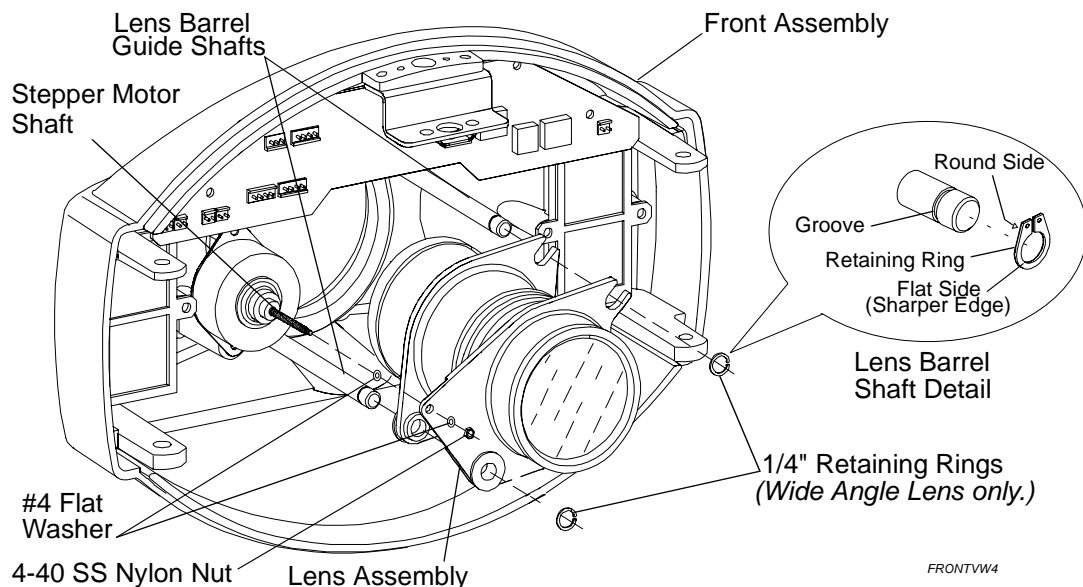

Figure 2-9: VL6 Luminaire Lens Assembly Replacement
- Step 3. At front assembly lens stepper motor, using 1/4" nutdriver and needle nose pliers, remove one 4-40 SS nylon hex nut and two #4 flat washers, securing lens assembly to stepper motor shaft. **Figure 2-9.**